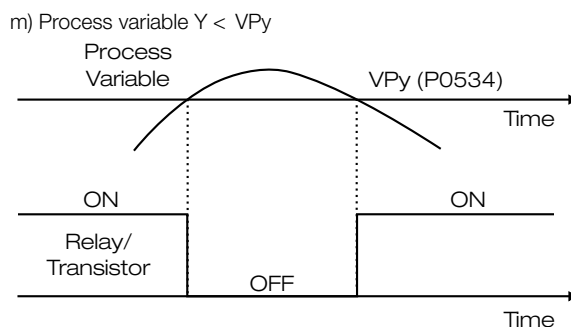

Figure 5.38: (a) to (m) - Details on the operation of the digital output functions
- Refer to Table 5.46 on page 5-64 and the Figure 5.38 on page 5-66 for more details regarding the digital outputs and relays.